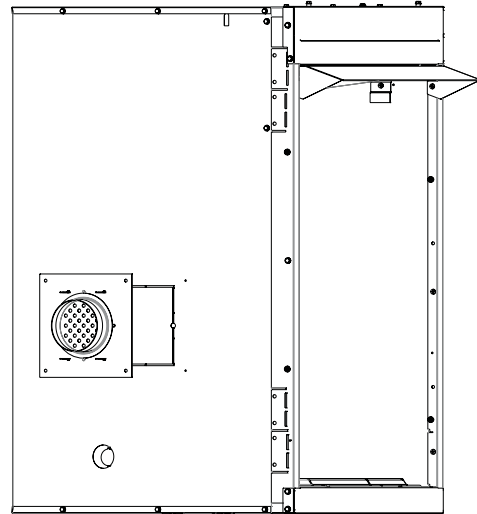
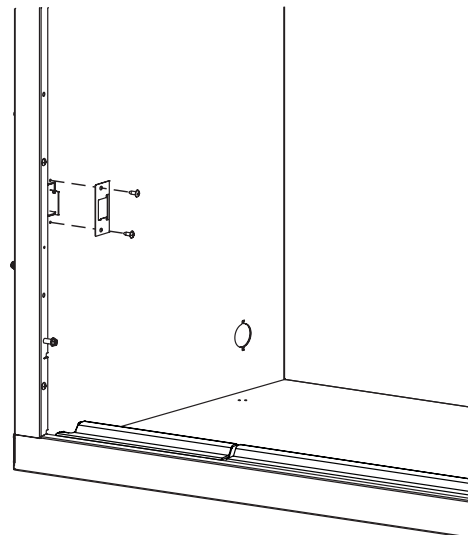

Figure 15
Figure 16
3. Insert Slide Assembly through the cut-out as shown in **Figure 15**. Before you fasten ensure that the handle penetrates the inner firebox wall. **See Figure 16.** Fasten the Slide Assembly with the four 10 x 1/2 Hex Head Screws provided.
4. Fasten the Handle Retainer to the firebox side with two 10 x 1/2 Phillips Truss Head Screws as shown in **Figure 16.**